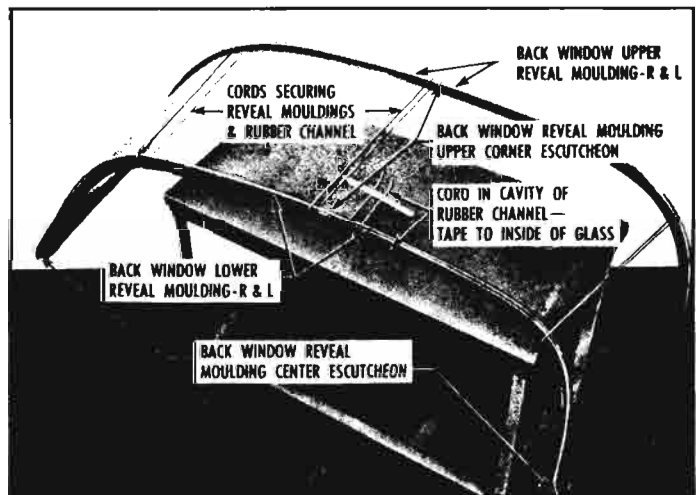

Fig. 10-80—Back Window Assembly Prepared for Installation
2. Install rubber channel to glass. On "700" styles install back window reveal mouldings to rubber channel. A rubber lubricant (soap and water solution) may be applied in reveal moulding cavity of rubber channel to assist in installation of mouldings. Tie back window reveal mouldings and rubber channel to glass as shown in Figure 10-80.